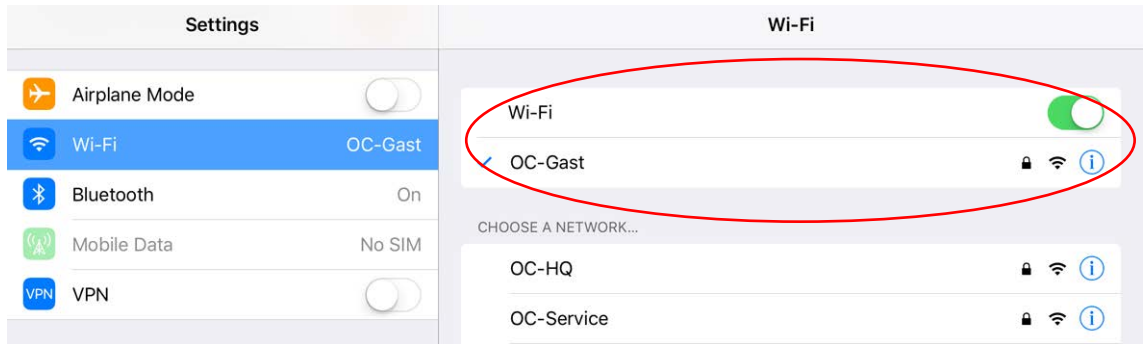

Fig. 7-2: Case 1:Wi-Fi is registered and enabled
- Your iPad must be registered on an active Wi-Fi, see also fig. 7-2, page 24.